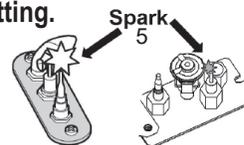

Fig 3
2. **SET ON/OFF SWITCH (1) TO "OFF" POSITION.**
- Wait five (5) minutes to clear out any gas, then smell for gas, including near the floor. If you smell gas, **STOP!** Follow "B" in the safety information above on this label. If you don't smell gas, go to the next step.
3. **AUTOMATIC IGNITION (fig. 1):** Locate the pilot (fig 3.) inside of firebox.
- ON/OFF switch (1) in ON position, MAN-knob (2) in ON position; set Flame Adjustment knob (3) to lowest setting (∩)
- When the pilot is lit, the Flame Adjustment knob (3) will automatically rotate to the highest setting.
4. **MANUAL IGNITION (fig. 2):** With the window off, locate pilot (fig 3.) inside firebox;
- ON/OFF switch (1) in ON position, MAN-knob (2) in MAN position;
- Set Flame Adjustment knob (3) to the lowest setting (∩);
- Push down the metallic core (4) with a pen or similar instrument; this will establish the pilot gas flow; Light gas at the pilot (5) with a match;
- Continue holding down metal core (4) for about 10 seconds; after release, pilot should remain lit;
- If the pilot will not stay lit after several tries, turn the gas control knob (3) to "OFF" (∩) and call your local service technician or gas supplier.